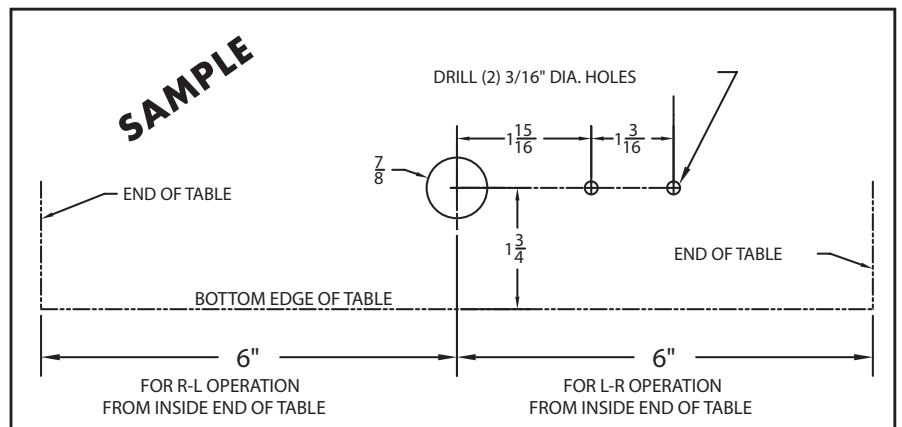

Fig. 2 -
1. Refer to Fig. 2, *Paper Drilling Template*, below.